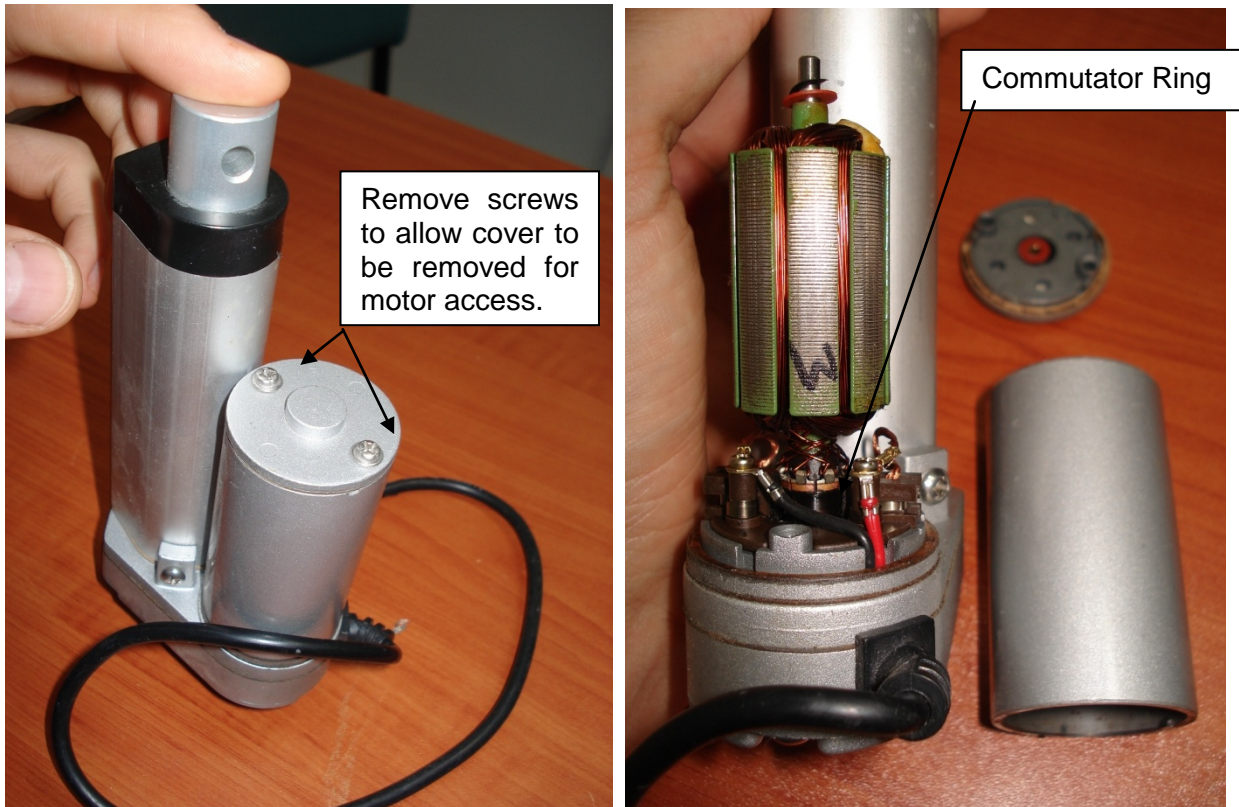

Figure 64 – Linear Actuator Disassembled
- Remove the two screws then take off the motor cover as shown in Figure 64.
- Figure 64 shows a close-up picture of the commutator ring. The unit in this picture is very dirty and badly needs cleaning.